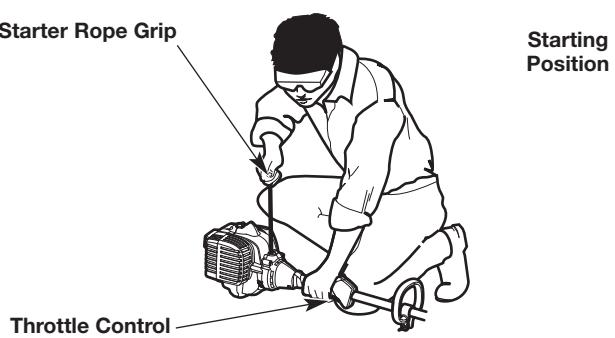

Fig. 14
WARNING: Avoid accidentally starting the unit. To avoid serious injury, the operator and the unit must be in a stable position when pulling the starter rope (Fig. 14).
3. Crouch in the starting position (Fig. 14).
5. Pull the starter rope with a controlled and steady motion **5 times** (Fig. 14).